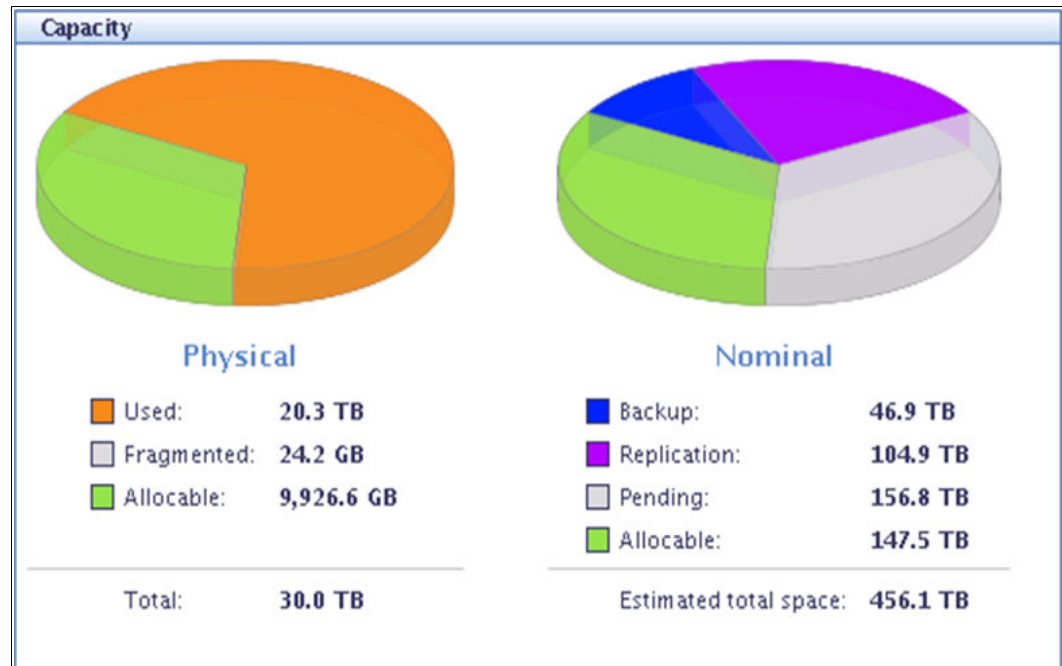

Figure 21-8 Repository usage by category
- A new GUI feature that provides an at-a-glance view of the proportion of the repository data, replication data, local backup data, and free space, as shown in Figure 21-8.